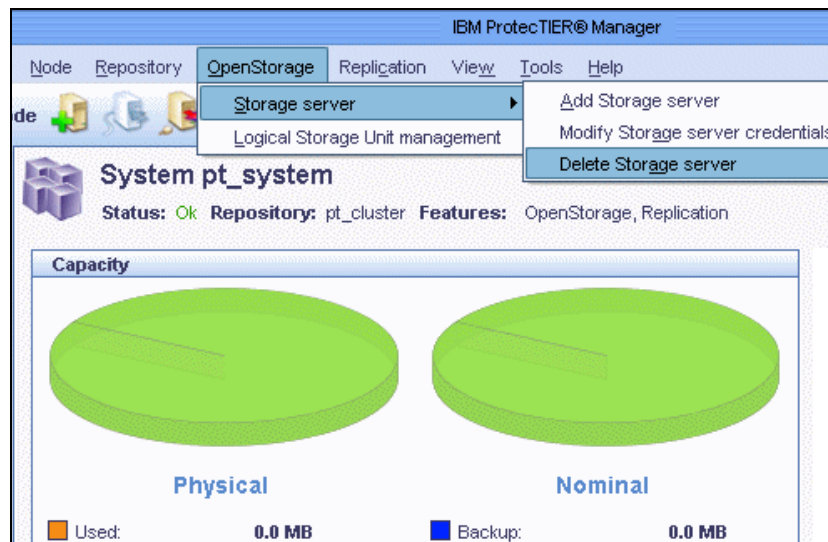

Figure 5-84 Delete Storage server window
2. From the OpenStorage menu, select **Storage server** → **Delete Storage server** (Figure 5-84).